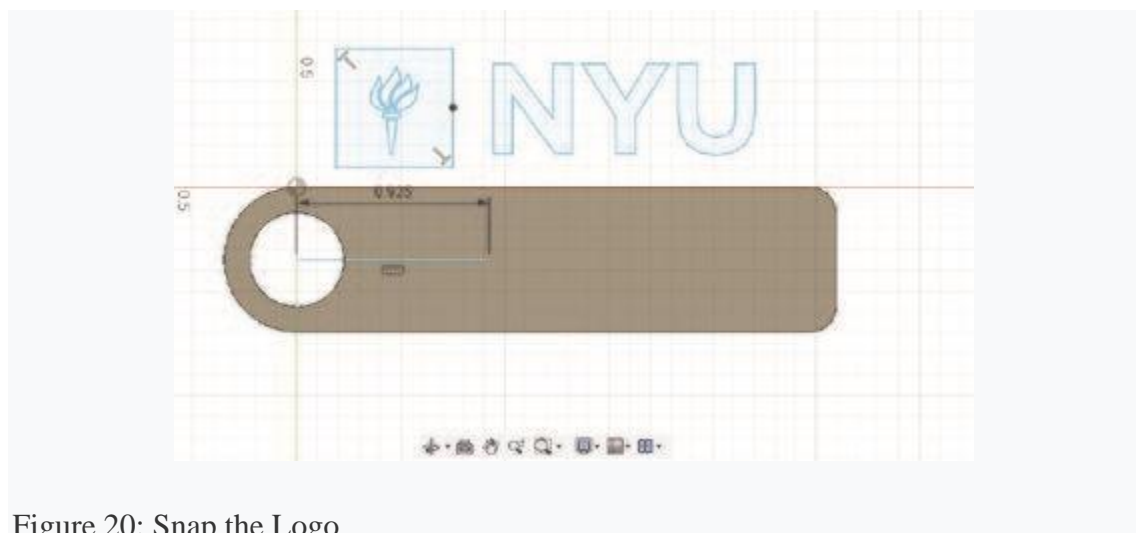

Figure 20: Snap the Logo
- 1. The logo should snap to it. (Figure 20)